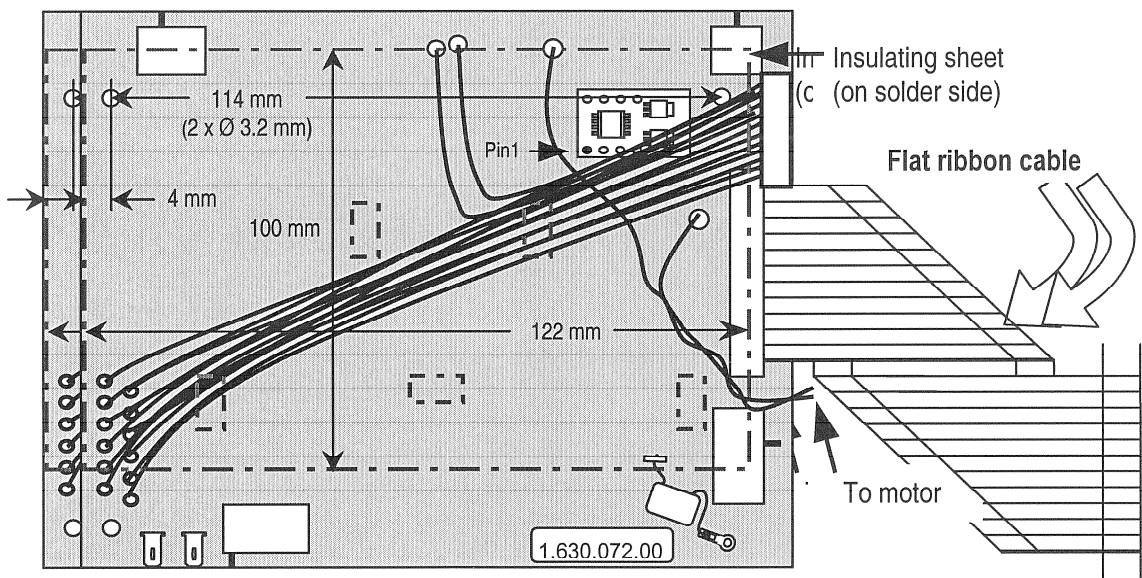
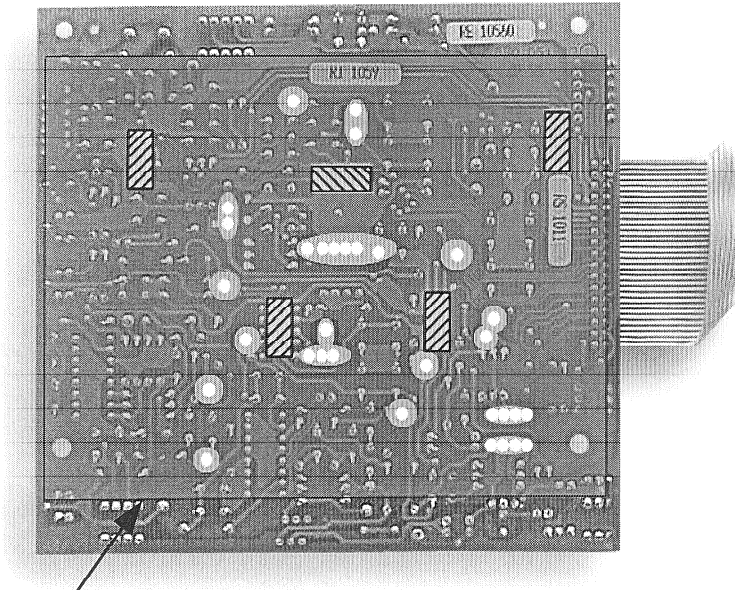
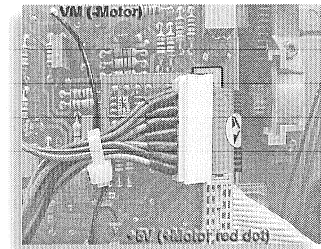
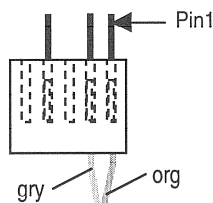

Fig. 1: Servo Board (assy. no. changed from 1.630.051.86 to 1.630.072.00 after the modification)
Fig. 3: Cut pin and wire ends on Servo Board; Insulating sheet w. 2 holes, fixed on solder side with 5 pcs. of self-adhesive foam tape
Fig. 4: Connection to CD drive. The flex PCB must by no means be under tensile stress. The connector is fixed to the PCB with auto-adhesive foam tape.
Fig. 7:
- Install the small Driver Brush Motor PCB (1.630.075.00) at the location of IC6; for details on its orientation please refer to fig. 1 and 2.
- The 100 nF capacitor (59.03.2104) is connected to TP19 (HF-RET); its second terminal is soldered to the solder lug (29.26.1002), refer to fig. 1. Test points TP2 and TP3 must be bent by 90°, refer to fig.1; we urgently recommend to unsolder them before bending.
- Solder the pre-fabricated wires (1.630. 114.93) to the corresponding solder pads according to the table below and to fig. 1 (at the former positions of connectors J1 and J3). Fix the connector to the PCB with a piece of adhesive foam tape (fig. 4). Tie the cables with the wire straps (35.03.0109) according to fig. 4 and 5. Solder the two twisted wires (brn, blk) to the corresponding pads on the PCB (refer to the table below and fig. 1).
- Caution:** *The clearance between the CD drive and the Servo Board is extremely narrow; therefore the component leads on the solder side marked grey in fig. 3 must be cut very short.*
- Cut a rectangular insulating sheet (dimensions: 122 x 100 mm) out of the insulating sheet put aside before; refer to fig. 1. Fix this insulating sheet as shown in fig. 3 to the solder side of the Servo Board, using five pieces of the double-sided adhesive foam tape contained in the kit. The foam tape has to be positioned according to fig. 1 and 3; press the insulating sheet firmly to the foam tape.
- Fold the flat ribbon cable as shown in fig. 1. Stick the label "1.630.072.00" over the label "1.630.051.86" and solder the two twisted wires to the motor's soldering tags (brn wire to red dot). Reinstall the Servo Board. If using the additional Service Kit 1.630.060.00, replace the 3-pin housing of the lock solenoid connector (plugged to socket J4) by the 5-pin housing contained in this kit, refer to fig. 7.